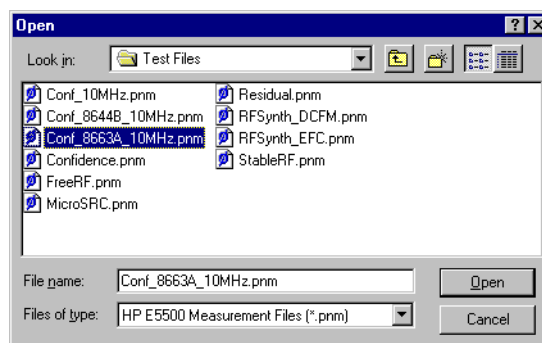

Figure 5-12 Select the Parameters Definition File
- 2 In the **File Name** box, choose “**Conf_8663A_10MHz.pnm**.” See Figure 5-12.